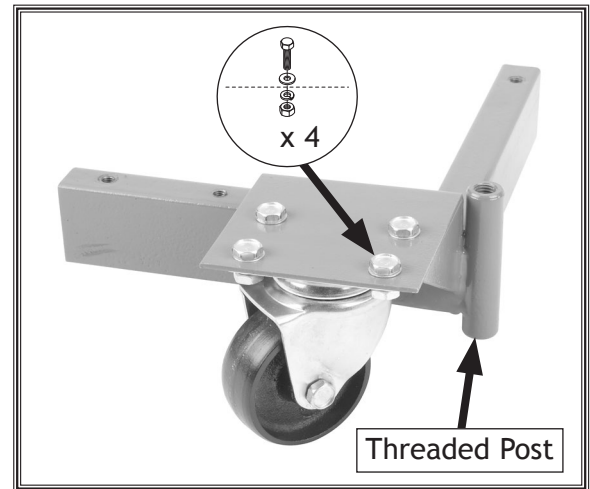

Figure 9. Swivel caster mounted to corner bracket with threaded post.
1. Mount the two swivel casters to the corner brackets with threaded posts (see **Figure 9**), using (4) M8-1.25 x 16 hex bolts, 8mm flat washers, 8mm lock washers, and M8-1.25 hex nuts on each.